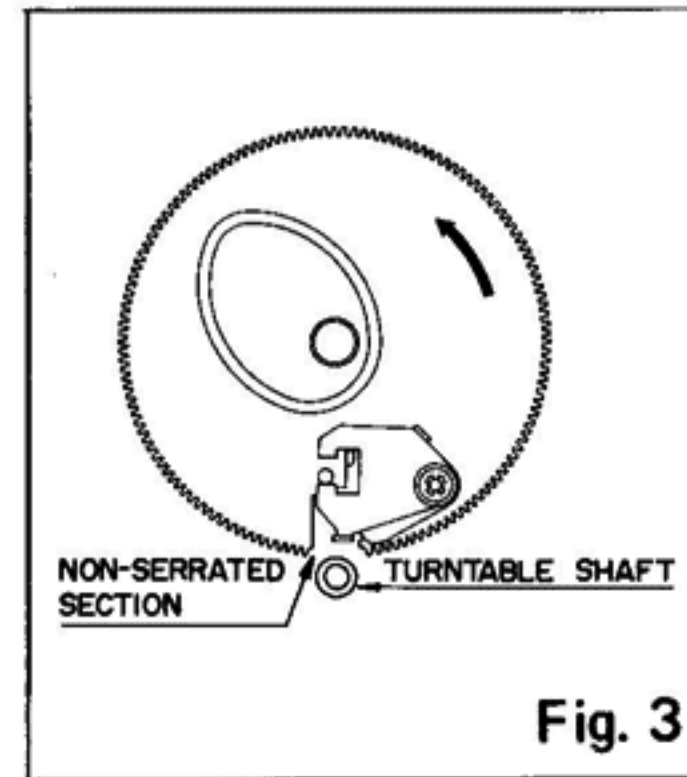

Fig. 3
- a. Turn the drive gear so that the non-serrated section faces the turntable shaft. (Fig. 3)